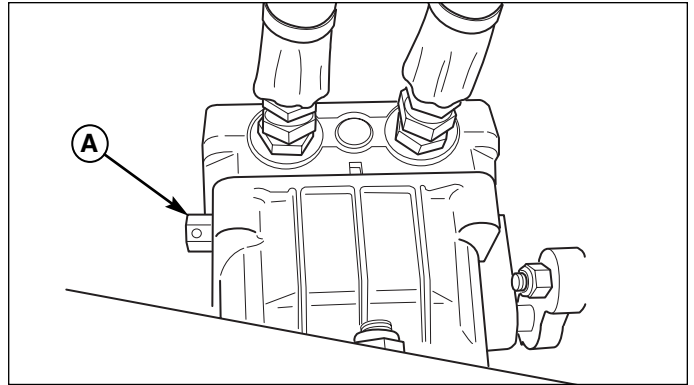

Figure 1. Hydraulic Release Valve Location
3. Open the hydraulic release valves. To open the release valves, turn the right-hand release valve, which is located on engine side of the right-hand pump, counter-clockwise 2 full turns **MAX**. Then turn the left-hand release valve, which is located on the outer side of the left-hand pump, counter-clockwise 2 full turns **MAX**. See Figure 1 for valve location.